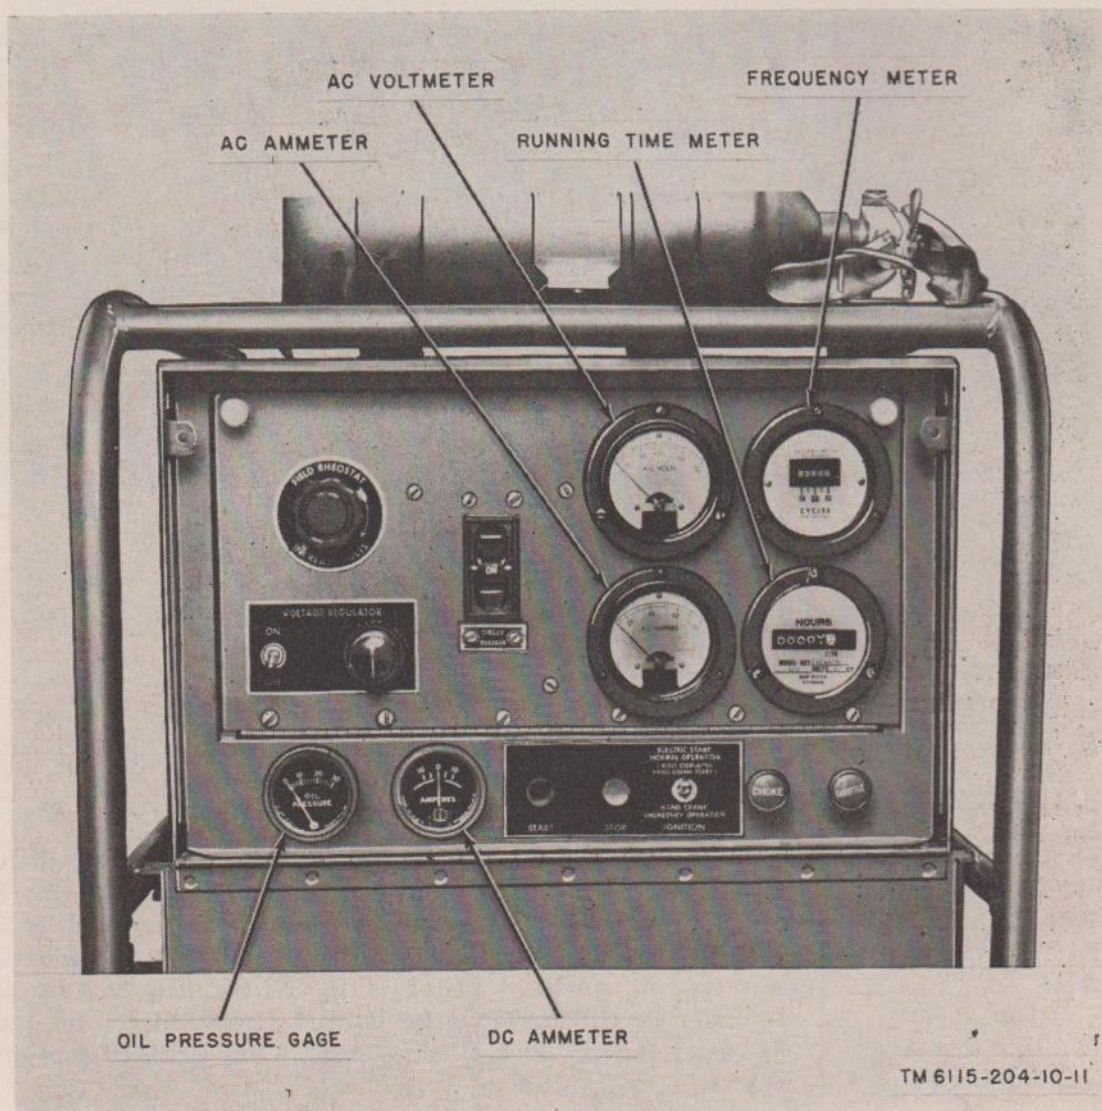

Figure 9. Generator set PU-286B/G, instrument and control panel.
Gasoline Engine Generator Set PU-286(*)/G is a self-contained, transportable, power unit (par. 4). Included with each PU-286(*)/G are the running spares, tools, and accessory equipments (par. 5) required for installation, operation, and operator's maintenance. Components of the PU-286(*)/G are located within a tubular metal frame; operating controls and meters are mounted on a control panel (figs. 9 and 10) at the front of the unit.
12. Controls and Their Uses (figs. 9 and 10).
13. Indicators and Their Uses (figs. 9 and 10)
20. Voltage Regulator Adjustment, PU-286B/G (fig. 9)